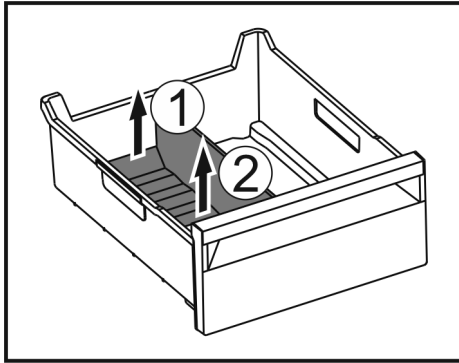

Fig. 213
- ▶ Lift the rear part of the ice compartment divider. Fig. 213 (1)
- ▶ Remove the ice compartment divider upwards. Fig. 213 (2)